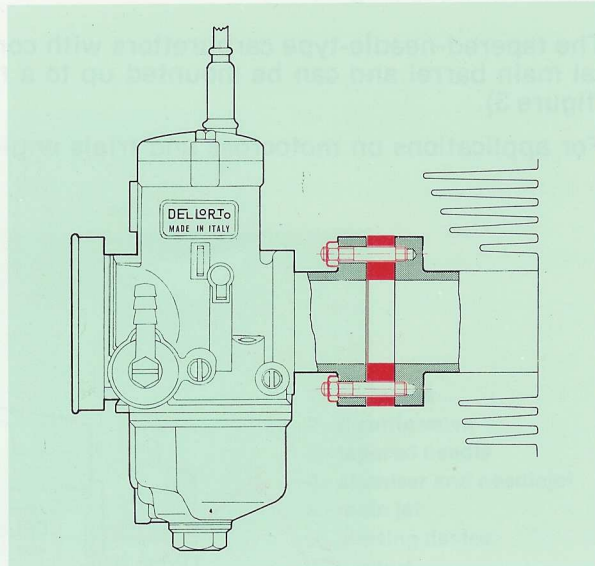

fig. 6
- C-flange fixing** (figure 6)